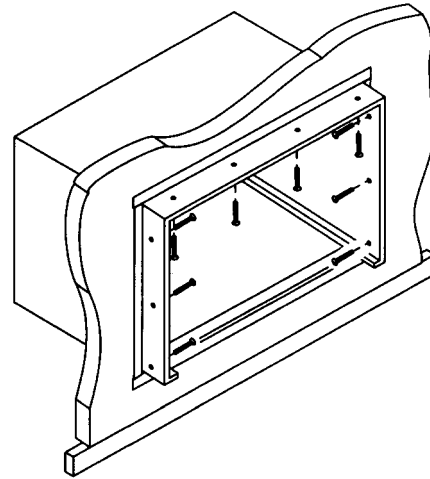

Fig. 27 – Securing Cabinet to Frame
15. There are screw holes in the cabinet (4 each side, 4 top) which are used to secure the cabinet to the wooden frame. With the cabinet in its final position, drill holes in the wooden frame using the screw holes in the cabinet as a guide. After the holes have been drilled, secure the cabinet to the wooden frame using field-supplied screws. See Fig. 27.